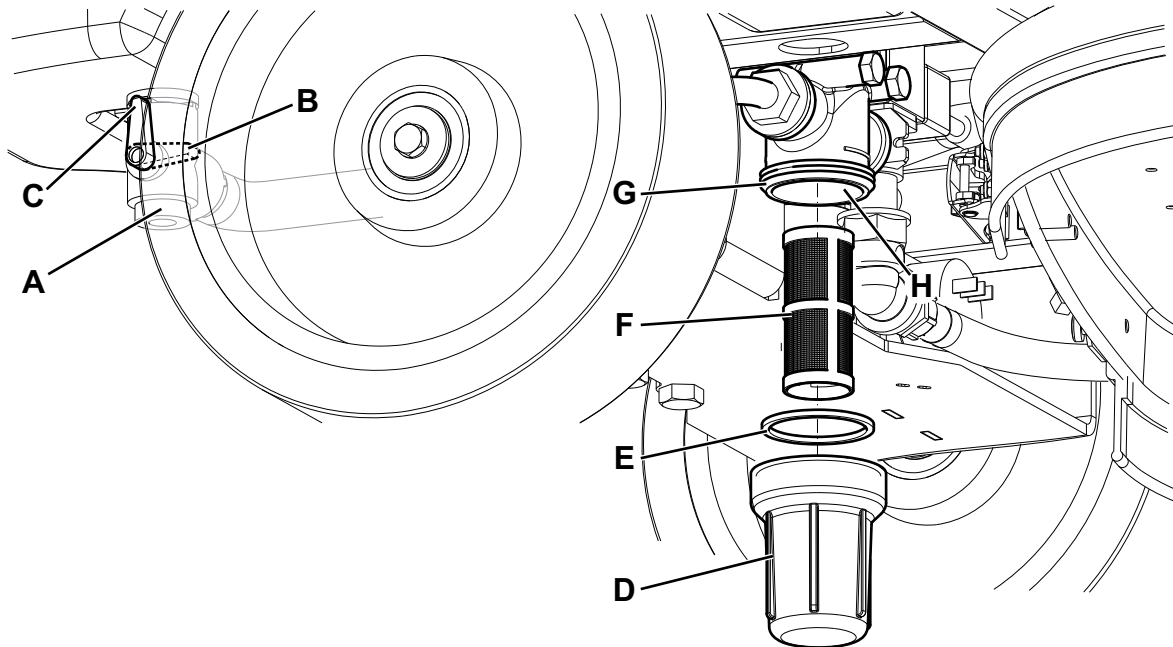

Figure 9
2. Turn the ignition key (58) to "0".
3. Close the solution valve (A, Fig. 9) under the machine, behind the right rear wheel. The valve (A) is closed when it is in the position (B) and it is open when it is in the position (C).
4. Remove the transparent cup (D), recover the gasket (E), then remove the filter strainer (F) under the machine, in front of the right rear wheel. Clean them with water and install them on the support (G).